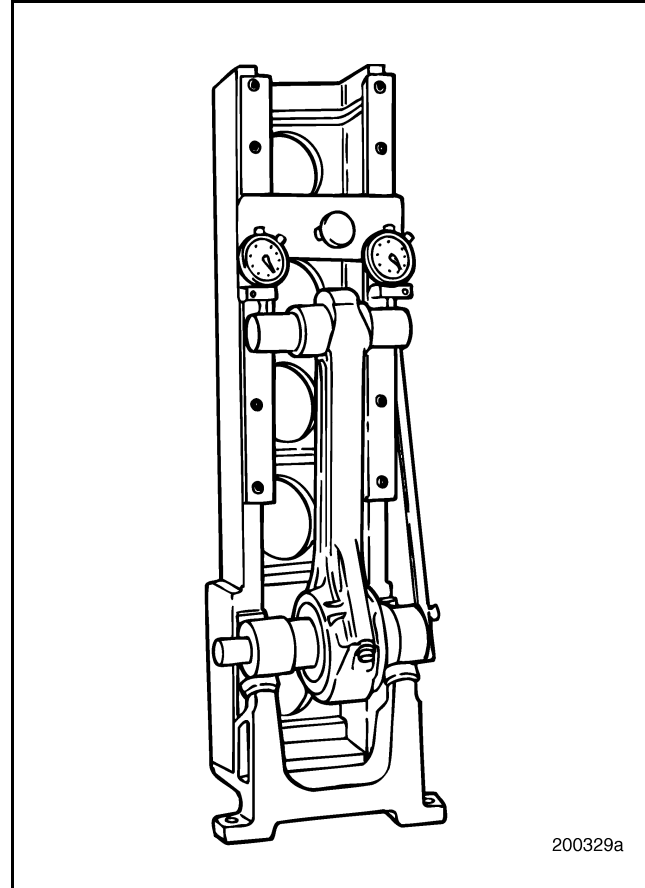

Figure 168 — Connecting Rod Fixture
4. Using a suitable lubricant, press the broach through the bushing to expand the bushing. Refer to Figure 168.